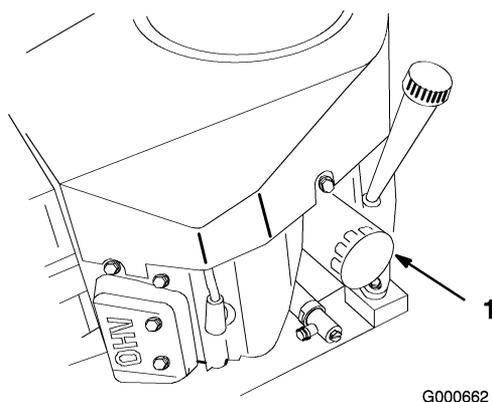

Figure 33
2. Remove the old filter (Figure 33).
4. Install the replacement oil filter to the adapter. Turn the oil filter clockwise until the rubber gasket contacts the filter adapter, then tighten the filter an additional 3/4 turn (Figure 33).